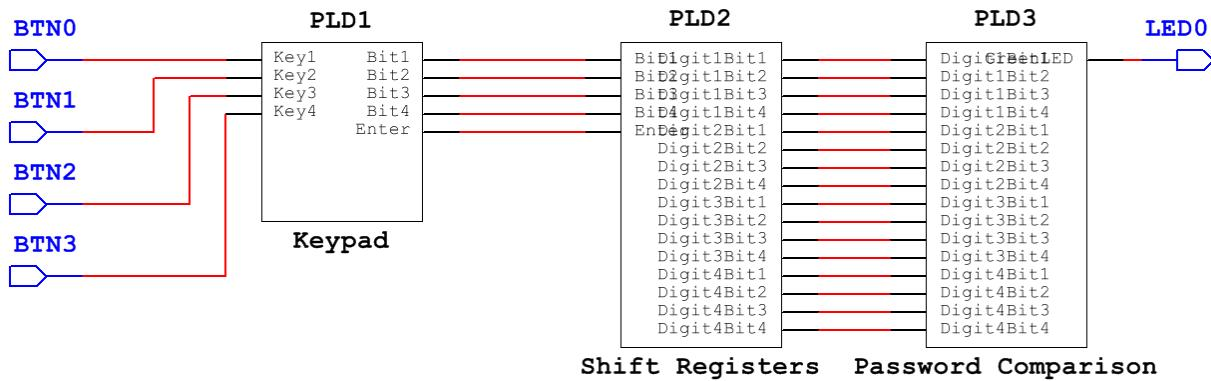

Figure 1-11 Digital Circuit
- Are you using the correct counter output? Remember the output is usually in binary numbers. Use *Figure 1-11 Decimal to binary conversion table* to help you with this step.